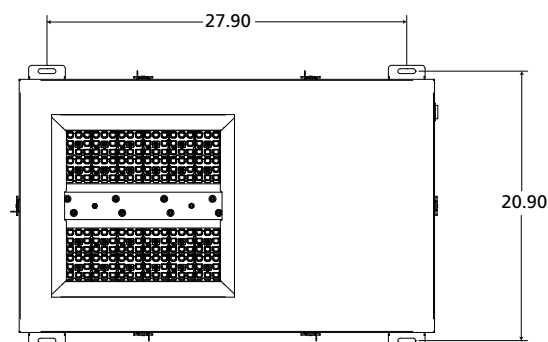

Figure 1
1. Secure fixture to wall or ceiling using user supplied hardware. 3/8 × 1-3/8 slots in mounting brackets are provided. See Figure 1.